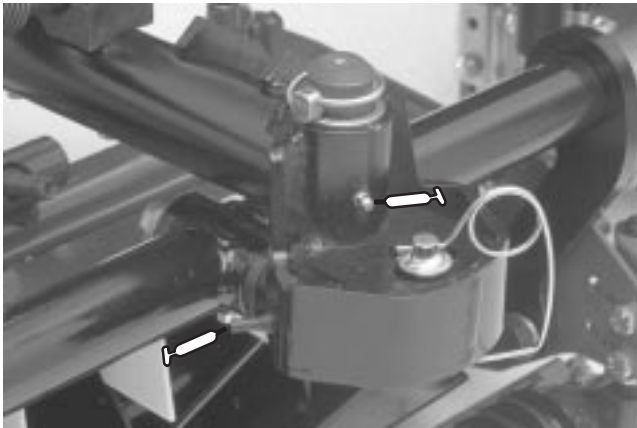

Figure 28
(Fig. 28–36)
1. The grease fitting locations and quantities are: Cutting unit carrier frame and pivot (2 ea.) (Fig. 28); Rear axle tie rod (2), Steering cylinder ball joints (2), (Fig. 30); Front lift cylinders (3), (Fig. 31 and 35); Rear lift cylinder pivot (2), (Fig. 32); Lift arm pivot (3), (Fig. 33); Rear axle pivot (Fig. 34) Rear lift arm pivots (2) (Fig. 29) and Brake pedal shaft (1) (Fig. 36).